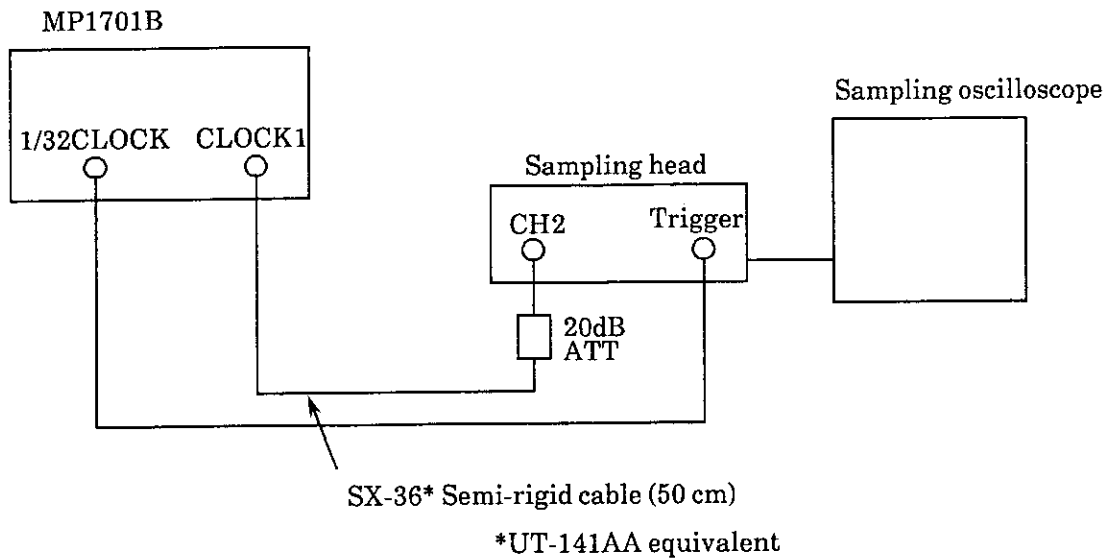

Fig. 7-11 Setup
(2) Setup
The setup is the same as that in paragraph 7.3.7 (2) and is shown in Fig. 7-11.
(3) Procedure